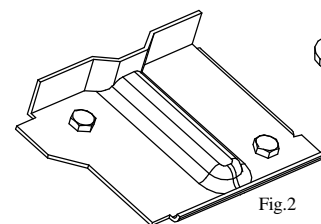

Fig.2
2. From the left and right side of the bumper unscrew metal elements - see fig. 2.